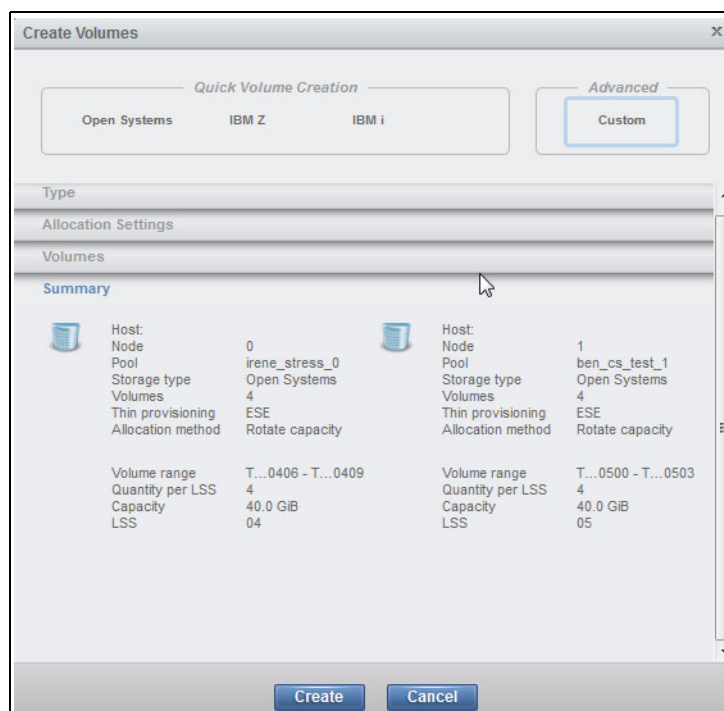

Figure 11-61 Creating Custom Volume for IBM i
5. See “Create IBM i volumes:Quick volume creation” on page 316 and specify the required volume settings. A summary window is shown in Figure 11-61.